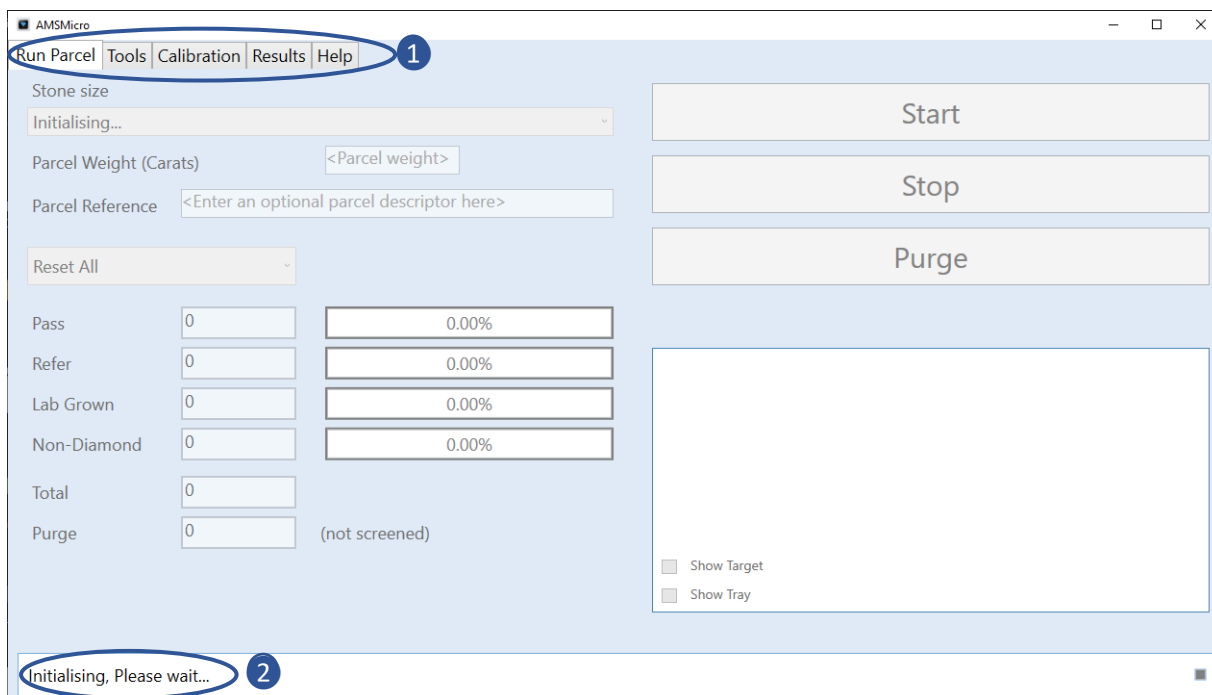

Figure 33 – Available Program Tabs with Run Parcel Tab Selected
The AMSMicro program features five selectable tabs *Figure 33* – ① that allow control or monitoring of the machine. Status and error messages are displayed at position ②.
This tab is shown in *Figure 33*. It is displayed on startup. For simple operation of AMSMicro this is the only tab the user requires.